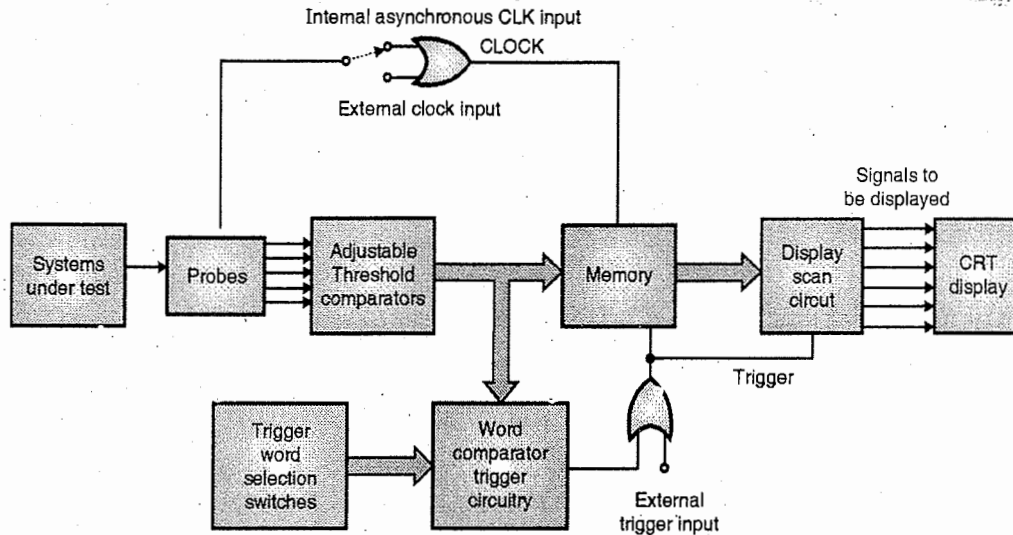

Fig. 2.11.1 : Block diagram of logic analyzer
- The logic analyzer is basically a multichannel oscilloscope. Fig. 2.11.1 shows the block diagram of a logic analyzer.